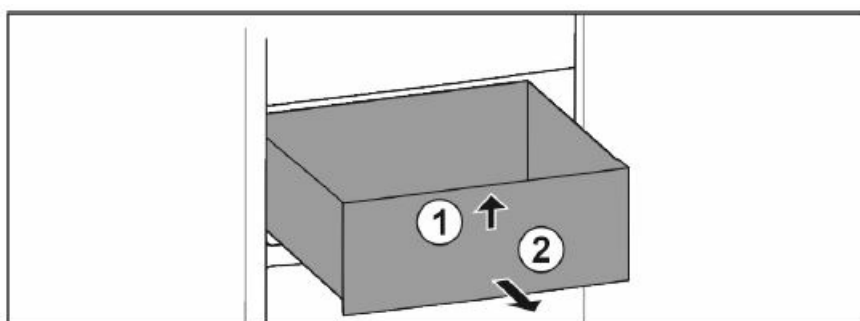

Fig. 19
- Lift drawer at the front. Fig. 19 (1)
- Remove drawer to the front. Fig. 19 (2)